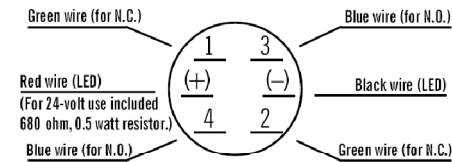

Fig. 2
2. Disassemble the switch as follows (see Fig. 2):
- a. Pop off the clear plastic protector (A) at the rear of the switch assembly.
- b. Unscrew the black plastic nut (B) holding the assembly together.
- c. Remove the small black rubber O-ring (C).
3. Insert the end of a larger paper clip or other stiff wire of similar diameter into any of the four corner holes (D) found at the back of the black switch housing until the green switch lens (G) pops off.
4. Replace the "PUSH TO EXIT" message plate (F) with the "PRESIONE PARA SALIR" message plate, or visa versa. Be careful not to lose the rubber seal (E).